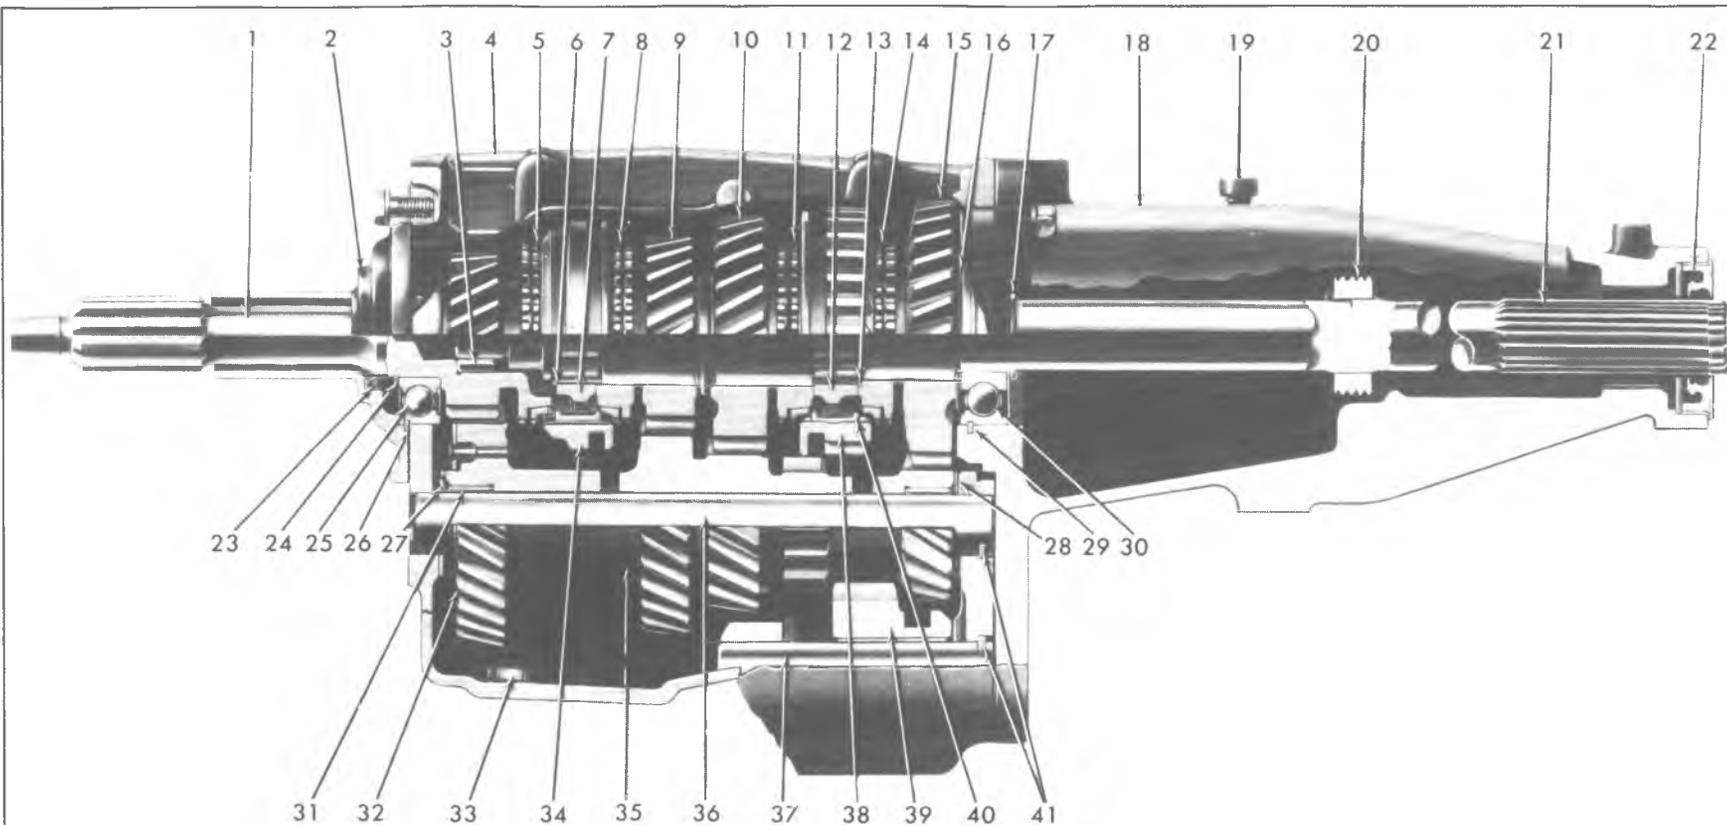

Fig: 7B-1J-4-Speed 76mm Transmission Cross Section
7. Using J-22246 at the front of the countershaft, drive the shaft and its woodruff key out the rear of the case. Tool J-22246 will now hold the roller bearings in position within the counter gear bore. Remove the gear and bearings (Fig. 7B-5J).
8. Remove reverse idler gear stop ring. Use a long drift or punch through the front bearing case bore and drive the reverse idler shaft and woodruff key through the rear of the case (Fig. 7B-6J).
1. Using snap ring pliers, remove the 3rd and 4th speed sliding clutch hub snap ring from mainshaft and remove clutch assembly, third gear blocker ring and third speed gear from front of mainshaft (Fig. 7B-7J).
3. Remove rear bearing snap ring from mainshaft groove (Fig. 7B-8J).